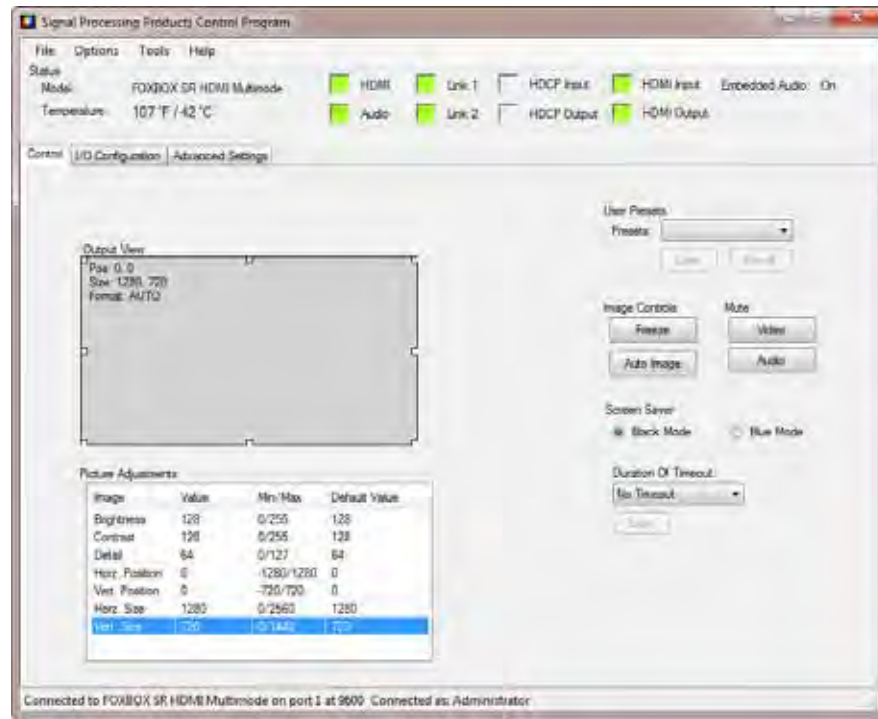

Figure 23. Signal Processing Product Control Program Window
2. Select the Com port to which your or receiver is connected. Click **OK**. The Signal Processing Product Control Program window appears (see figure 23).